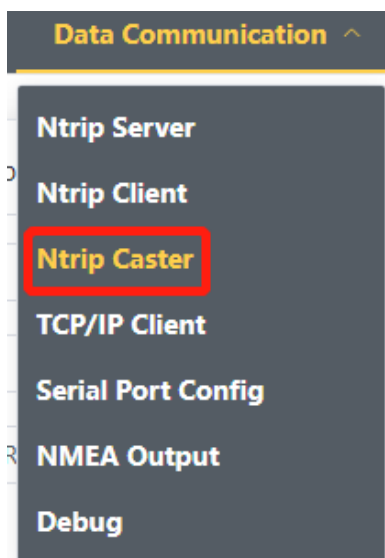

Figure 3-2-3-1
3. Set the port number and the mountpoint name as shown in Figure 3-2-3-2.